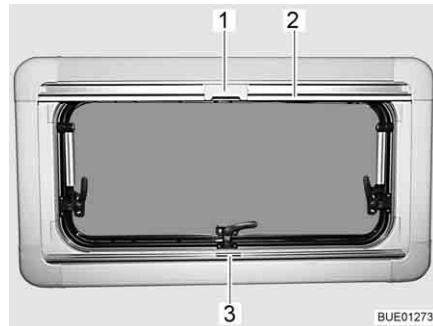

Fig. 79 Hinged window
Closing: ■ Grip the Roman shade in the centre of the holding bar (Fig. 79,3), pull it from the bottom to the top and then release it at the desired height. The Roman shade will stay at this height.
Closing: ■ Pull the insect screen down using the holding bar (Fig. 79,2), until it touches the holding bar of the Roman shade (Fig. 79,3).
■ Clip the catch (Fig. 79,1) on the insect screen into the handle of the Roman shade.
Opening: ■ Push the catch (Fig. 79,1) on the insect screen inwards.
■ Move the insect screen back slowly on the holding bar (Fig. 79,2).